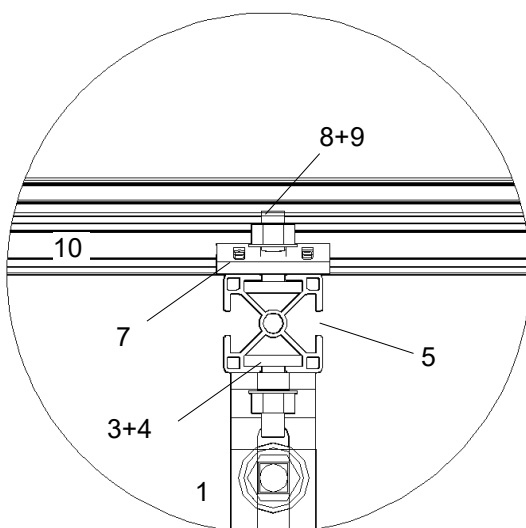

Fig. 7
- The mounting rail (5) is fixed at the roof hook (1) with carriage-bolts M8 (3) and nuts M8 (4) by inserting the carriage-bolt into the slot of the rail (Fig. 7).
- Fix the lower mounting profile (10, has to be ordered separately) with clamps (7), carriage-bolts M8 (9) and nuts (8) in the slot of the mounting rail. Ensure that the rail is as straight as possible, and the lower distance to the edge of the rail is about 15 mm (Fig. 7).